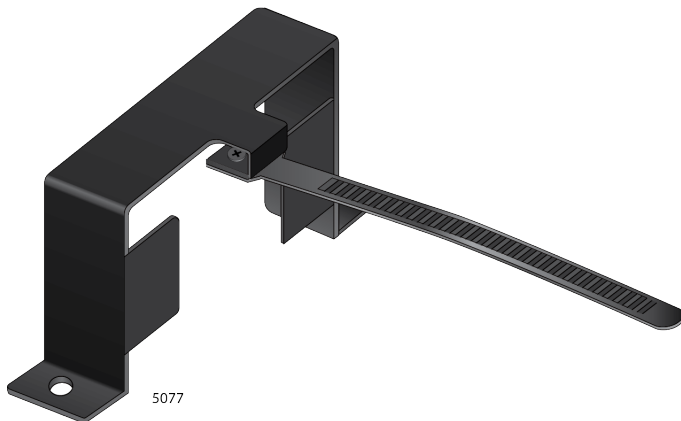

Figure 13. The Power Adapter Bracket with the Cable Tie
5. Flip the side of the bracket unit. Figure 13.